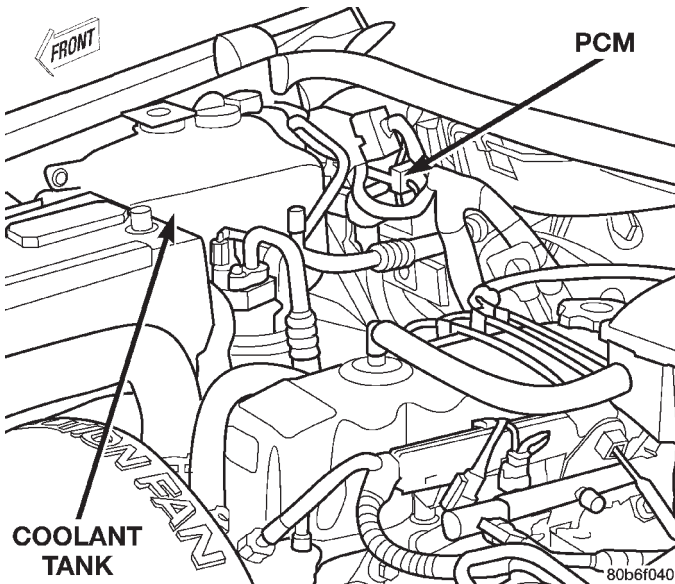

Fig. 2 Powertrain Control Module (PCM) Location
(1) Verify three 32-way electrical connectors are fully inserted into connector of Powertrain Control Module (PCM) (Fig. 2).